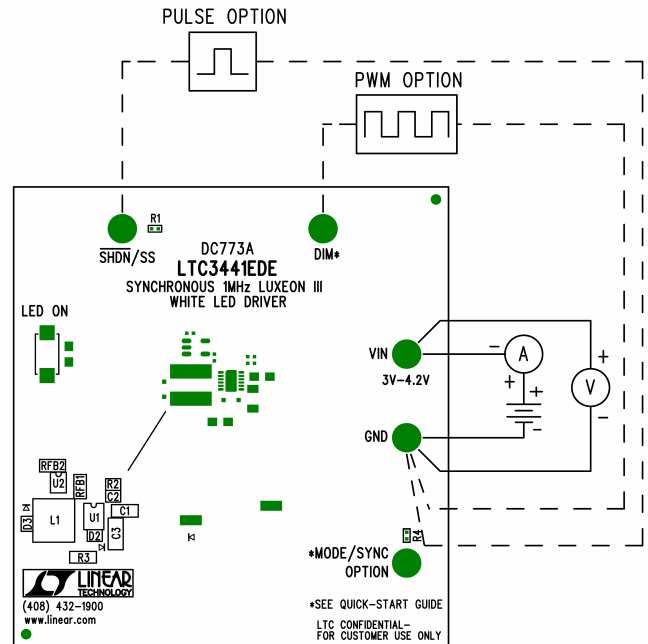

Figure 1. Proper Measurement Equipment Setup
Demonstration circuit 773 is easy to set up to evaluate the performance of the LTC3441 & LTC2050. Refer to Figure 1 for proper measurement equipment setup and follow the procedure below:
1. Connect the power supply (with power off), load, and meters as shown in Figure 1.